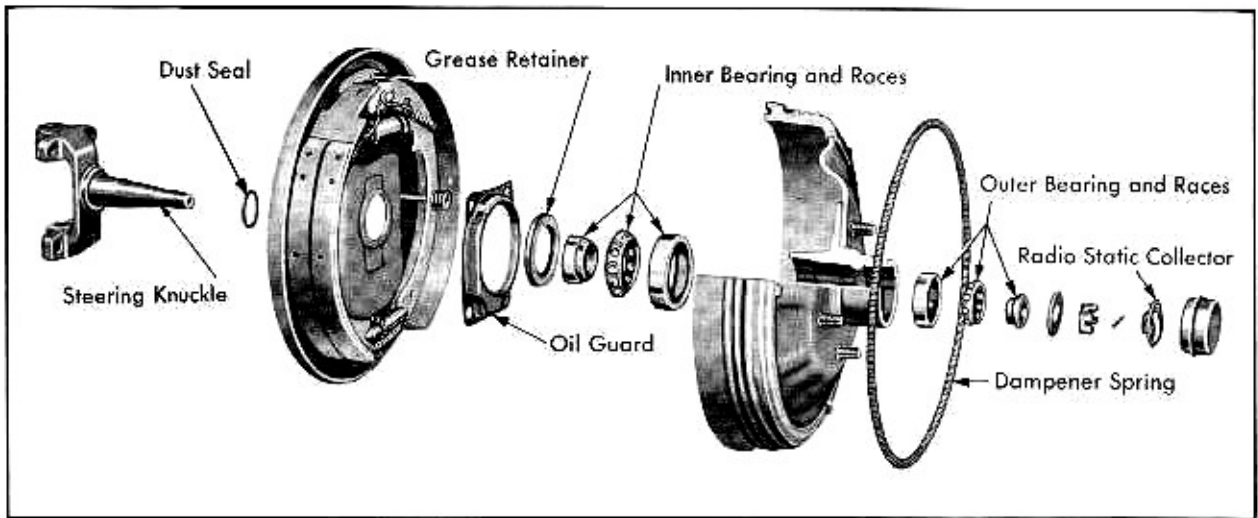

Fig. 6-17 Front Wheel - Disassembled
3. Remove dust cap and take out radio static collector. Fig. 6-17.